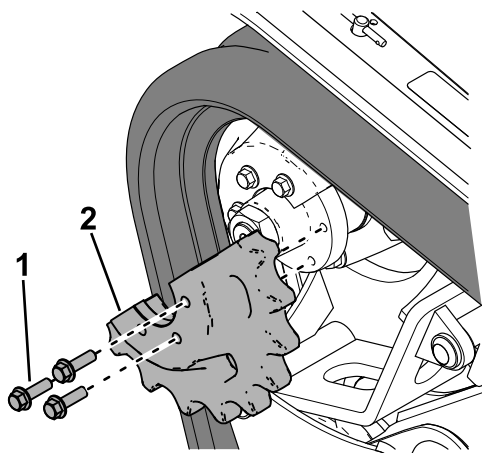

Figure 28
9. Remove the 3 bolts securing the sprocket half that is not engaged with the track (Figure 28).
install the sprocket half (Figure 28). Torque the bolts to 95 to 115 N·m (70 to 85 ft-lb).